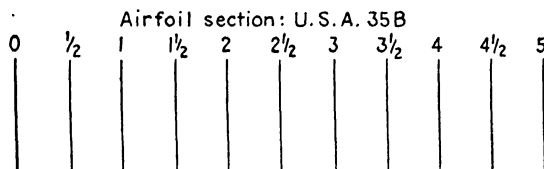

Fig. 176.
Step 1.—Draw the datum line and the vertical axis (see Fig. 176).